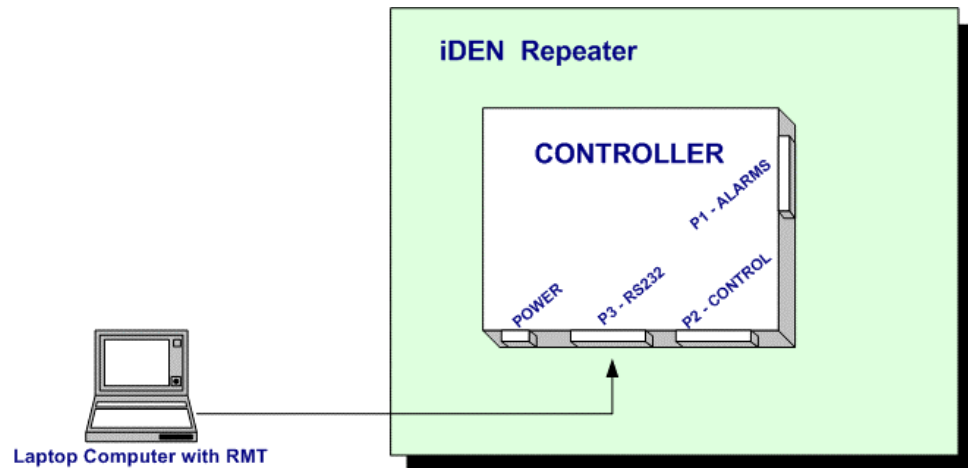

Figure 6: CDMA Repeater - Local Monitoring with Laptop
- Connect an external serial cable (RS232) from the Laptop to the Controller P3 (RS232) connector (see Figure 6). Make sure that the status led on the Controller is blinking before you connect the cable.